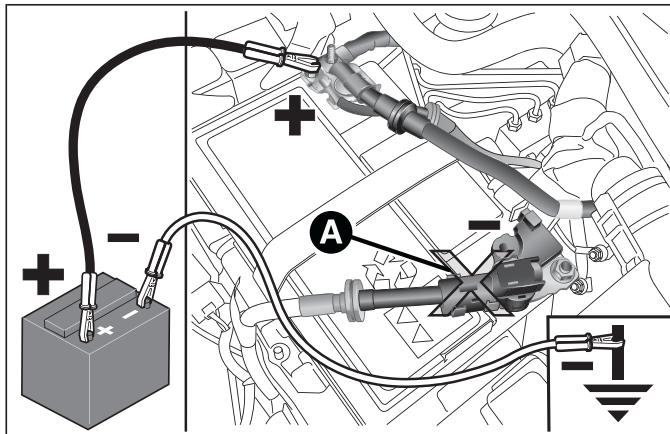

fig. 110
- ☐ connect the positive terminals (sign + near the terminal) of the two batteries with a jump lead fig. 110;